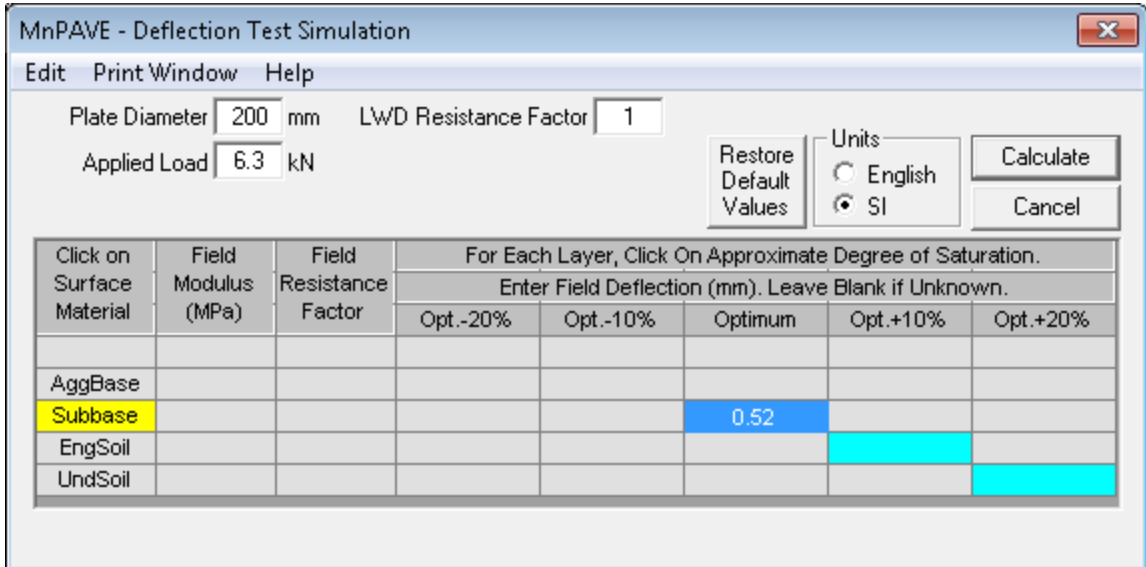

Figure 6 Enter Measured Deflection Value
- If LWD tests need to be completed before continuing, you can exit the LWD window and save the MnPAVE file. After deflection data for the current layer has been collected, return to the LWD window. Click **Input Data** if necessary. If the moisture condition for the current layer was not Optimum, select the column that is closest to the moisture condition, click on the box for that layer and enter the measured deflection value (see Figure 6).